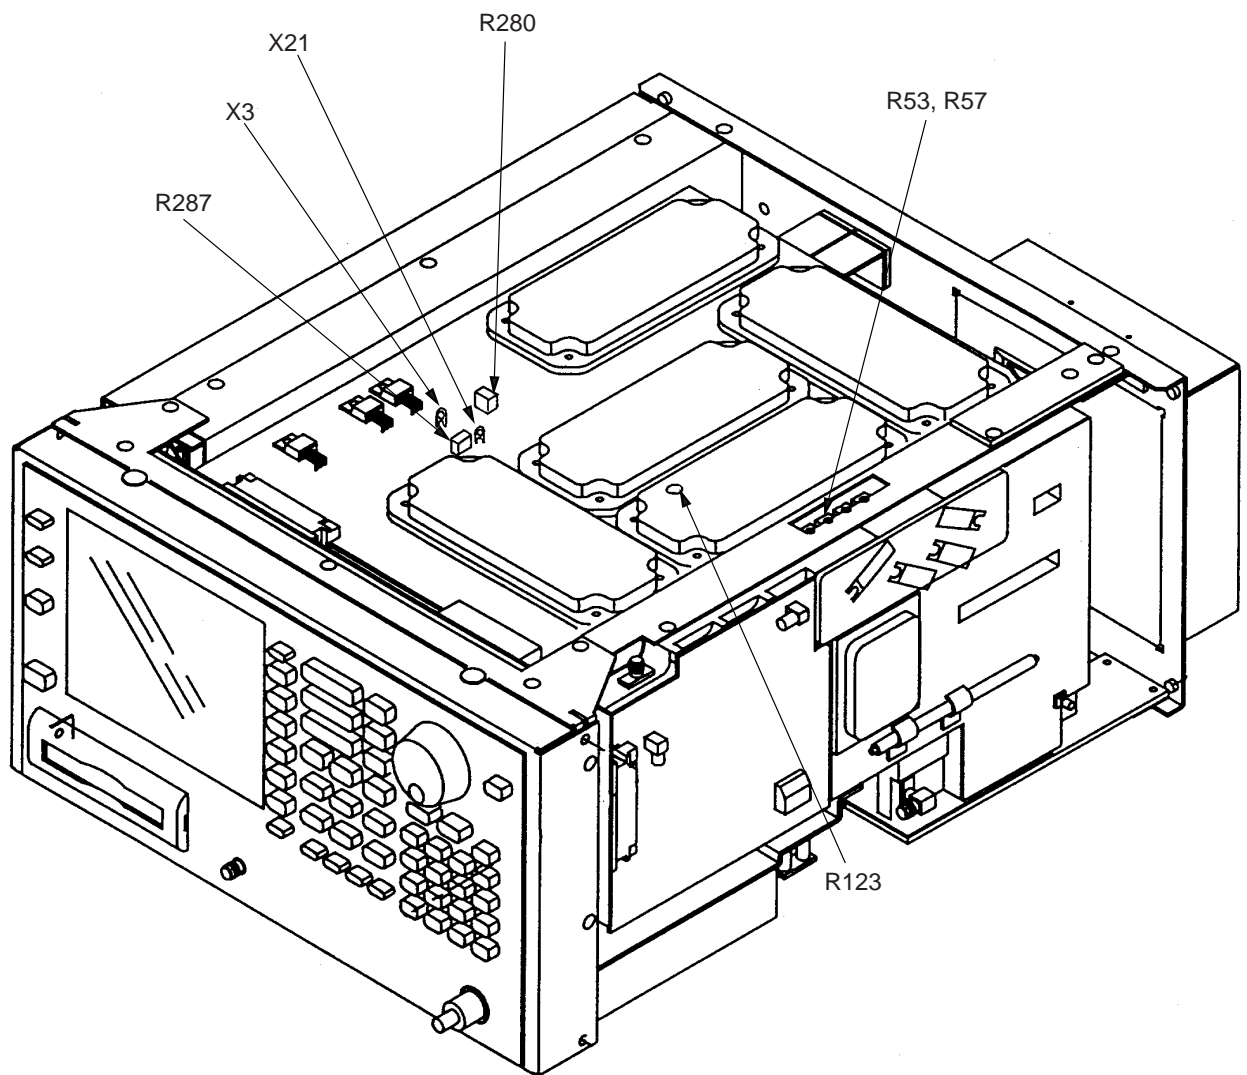

Fig. 3-2-4 The location of adjusters on LOCAL-SP2 and RF CONVERTER
- (1) Connect digital multimeter HI input to the X3 terminal on LOCAL-SP2 PC board. (Refer to Fig. 3-2-4)
- (2) Connect digital multimeter LO input to the spectrum analyzer's common.
- (1) Connect digital multimeter HI input to the X21 terminal on LOCAL-SP2 PC board. (Refer to Fig. 3-2-4)
##### 4) Adjust the variable resistor R123 on LOCAL-SP2 (refer to Fig. 3-2-4) until the reading of frequency difference becomes 80 kHz $\pm$ 200 Hz, to repeat the procedure 2), 3).
##### 4) Adjust the variable resistor R53 on RF CONVERTER (refer to Fig. 3-2-4) until the reading of frequency difference becomes 8 MHz $\pm$ 40 kHz, to repeat the procedure 2), 3).
- 7) Adjust R287 on the LOCAL-SP2 (refer to Fig. 3-2-4) until the difference voltage between V1 and V2 is below  $\pm 1$  mV, to repeat the procedure 1) to 6).
- 7) Adjust R280 on the LOCAL-SP2 (refer to Fig. 3-2-4) until the difference voltage between V1 and V2 is below  $\pm 1$  mV, to repeat the procedure 1) to 6).